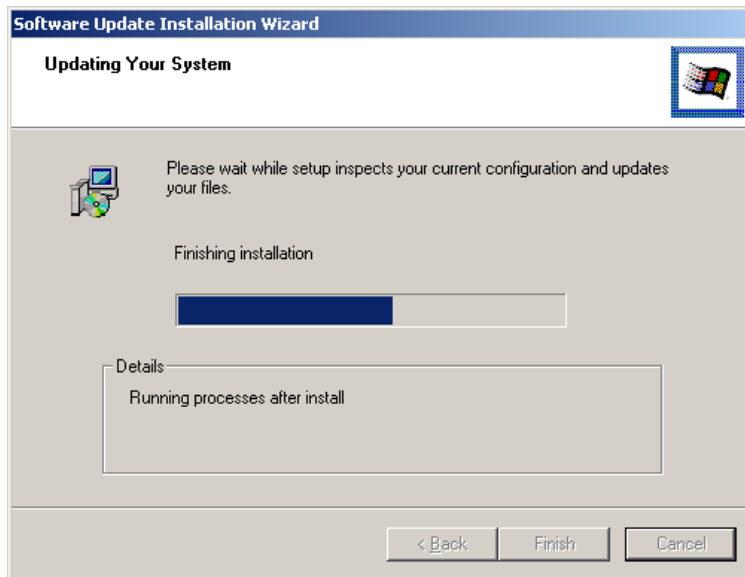

Figure 7-50: Installation Wizard Updates the System
Step 12: The Installation Wizard updates the system as shown in **Figure 7-50**.